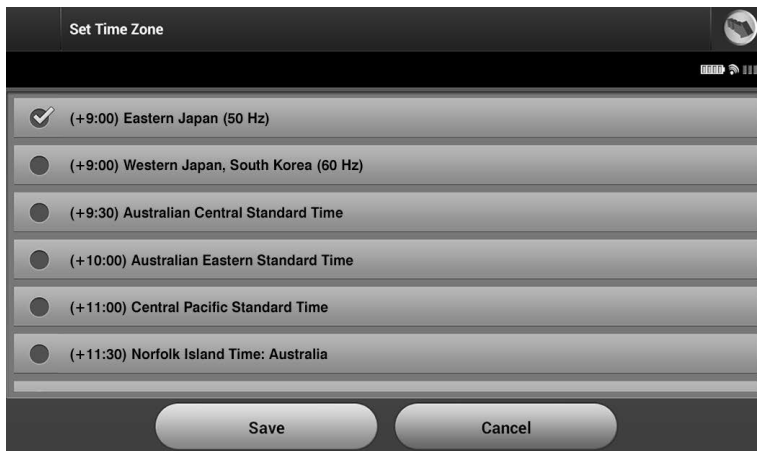

Figure 9: *Time Zone selection screen (scrollable list)*
1. Select Set Time Zone on the Programmer Settings screen. The time zone selection screen appears (Figure 9).
In the rare cases where a single time zone setting includes regional power line frequency differences, two line frequency options are available. Choose the option with the correct frequency for the region where the programmer is located (for example see the top two rows in Figure 9.)